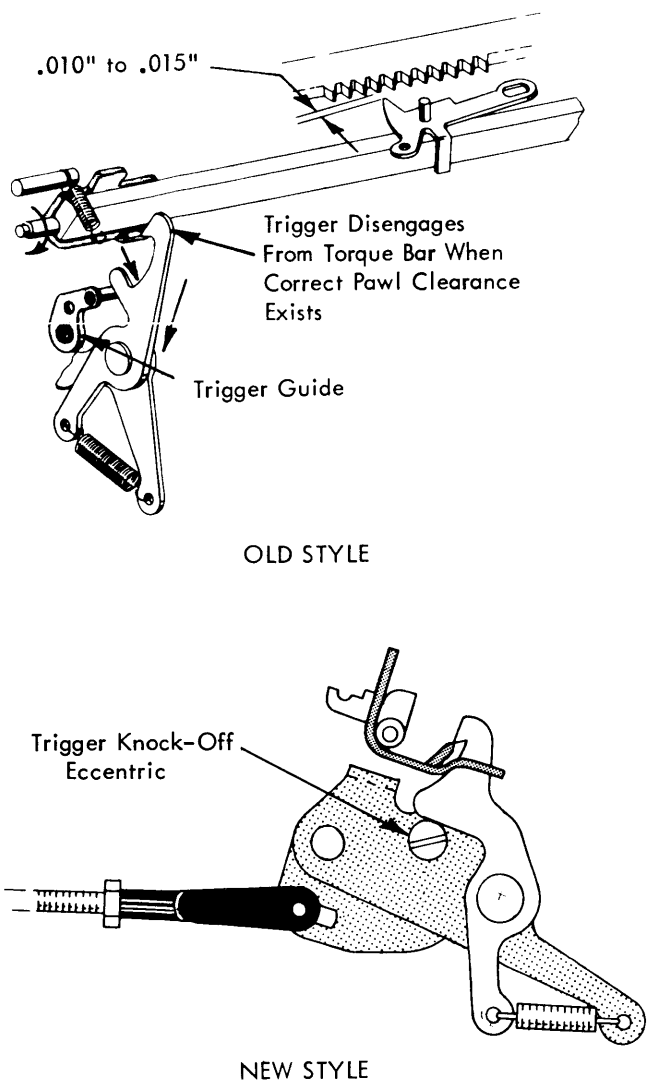

FIGURE 101. Escapement Trigger Guide Adjustment
8. Escapement Trigger Action - Adjust the trigger guide (early style machines) or the trigger knock-off eccentric stud (new style machines) so that the escapement trigger will become disengaged from the torque bar lug when the escapement pawl clears the rack by .010" to .015" (Fig. 101).